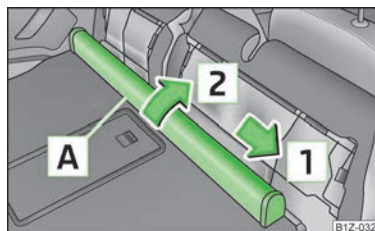

Fig. 61
- Push the net partition housing **[A]** » Fig. 61 in the direction of the arrow **[1]** and remove it from the mounts on the rear seats in the direction of the arrow **[2]**.
- Push the net partition housing in the opposite direction of the arrow **[1]** » Fig. 61 as far as the stop.